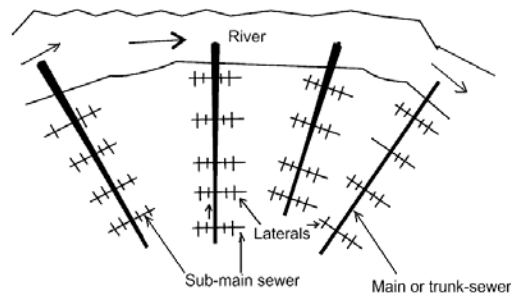

Figure 2.1 Perpendicular pattern of collection system
- The shortest possible path is maintained for the rains carrying storm water and sewage (Figure 2.1).